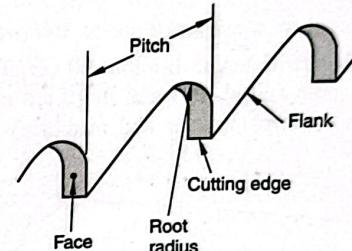

Fig. 1.27. (e)
8. Pitch : The distance between the adjacent cutting edges is called pitch. [See Fig. 1.27 (e)]